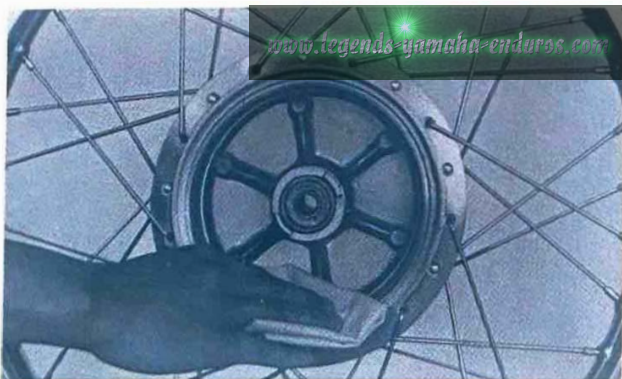

Fig. 18
- (1) Clean the inner surface of the front wheel hub with a clean cloth. (Fig. 18)